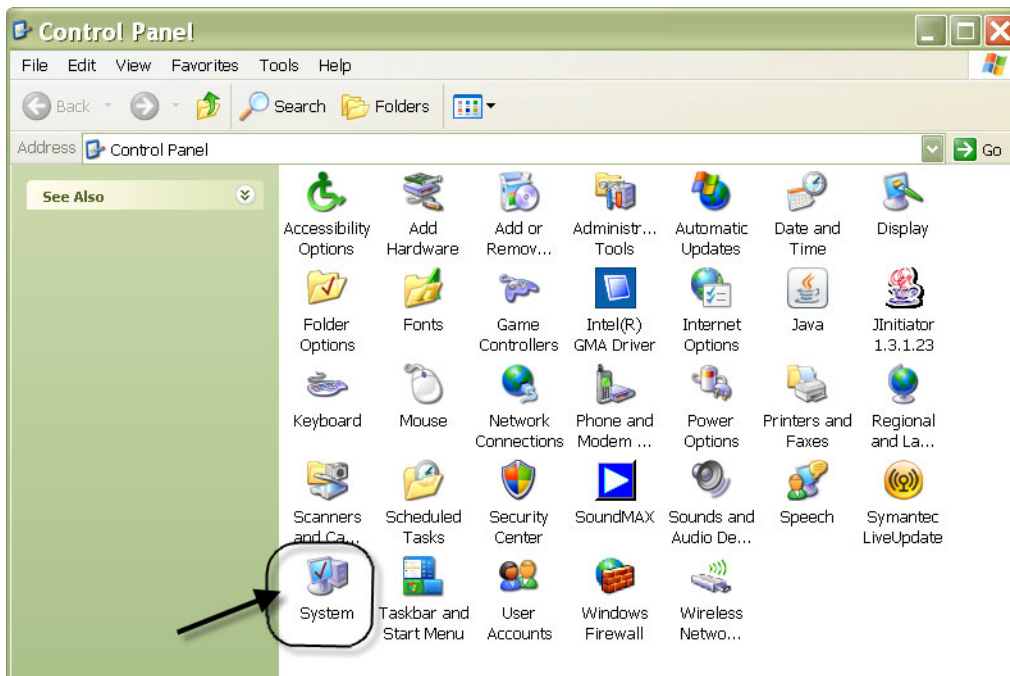

FIG. 120
2. The Control Panel is shown in FIG. 120.